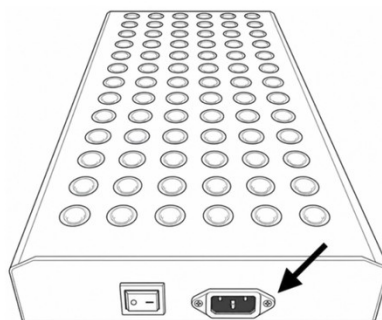

Figure 25. Red Light Therapy Panel: verify washers, mount through the door glass, connect power beside the door.
- With a helper holding the panel in place on the inside of the glass door, pass each bolt through the door glass into the threaded holes on the back of the panel and tighten until snug (Figure 25). Do not over-tighten against the glass.